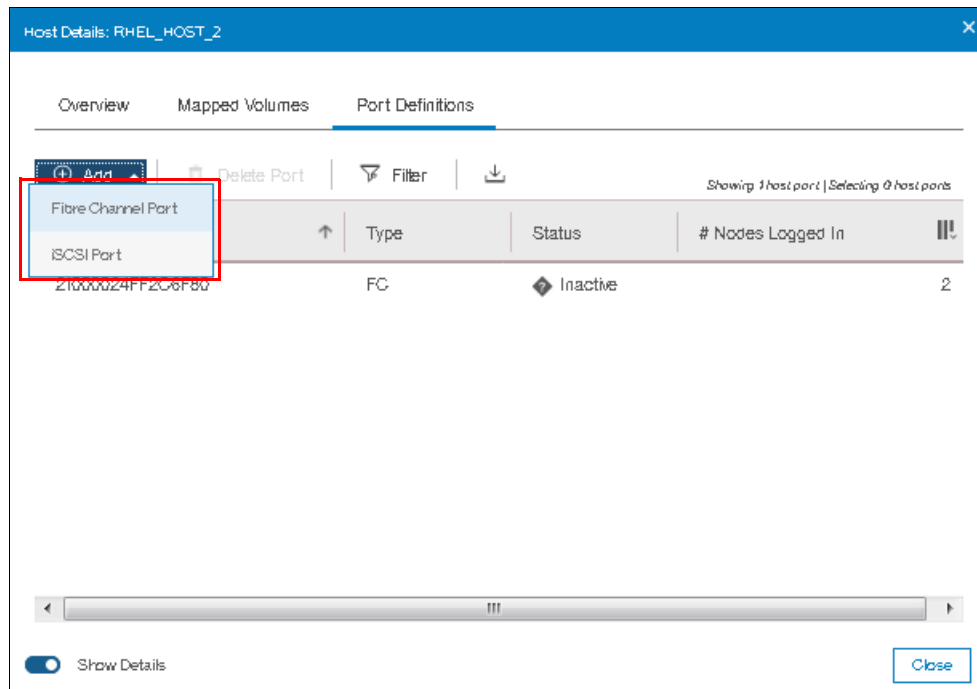

Figure 8-31 Type of port to be added
2. Select the type of port that you want to add. In this example, we chose Fibre Channel port as shown in Figure 8-31.